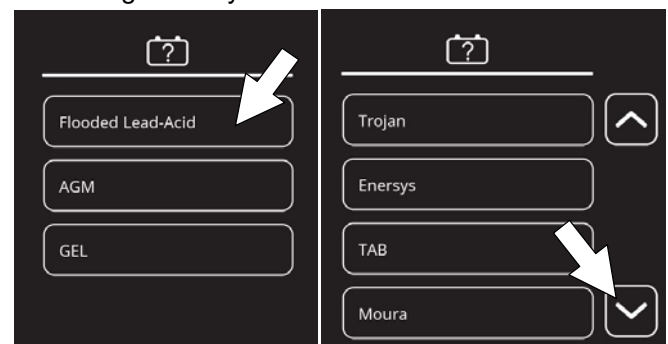

FIG. 128
- Select battery type and brand installed in machine (Figure 128). See battery label to determine type and brand. Press the up and down arrows to scroll through battery selection.